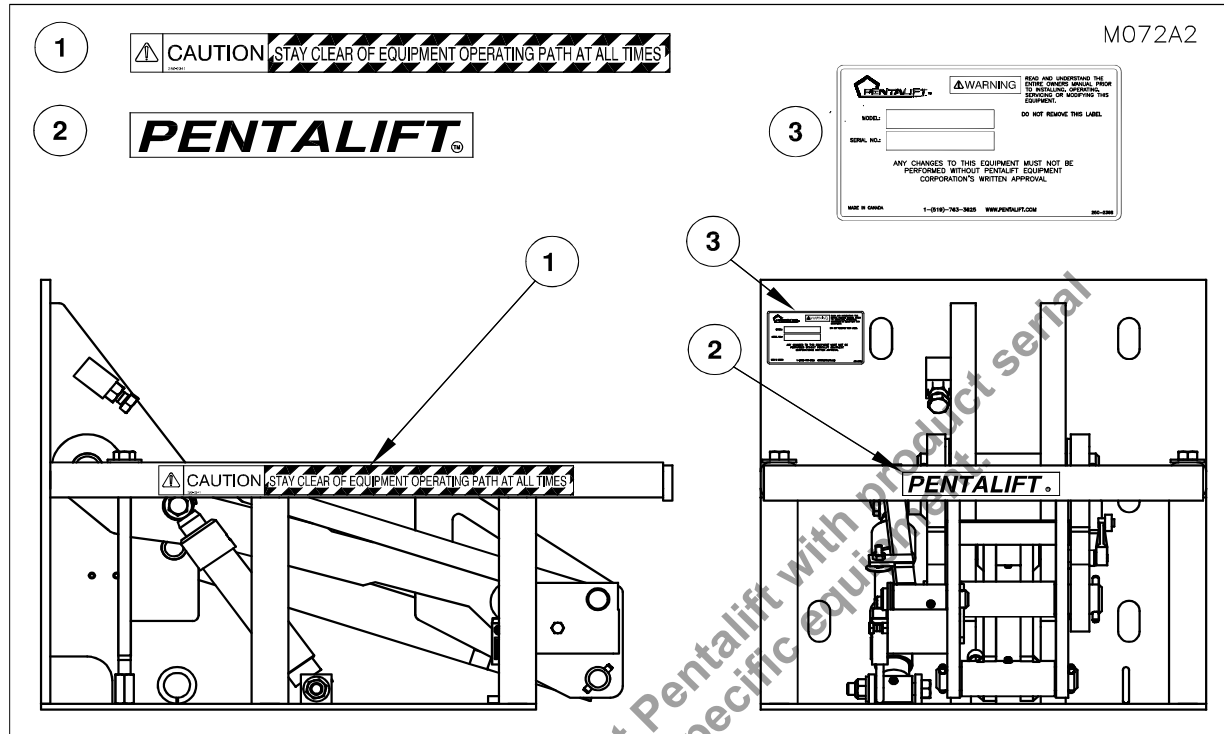

Figure 1: Safety Labeling
**NOTE:** In some instances, product configuration and / or product options may dictate that the product labels will not be placed as indicated on the drawing ("Figure 1: Safety Labeling"). Different label locations will be selected at the factory, when required, to avoid an impaired view of the labels. Note the label locations as supplied on the product, when it is received to accommodate future label replacement requirements.